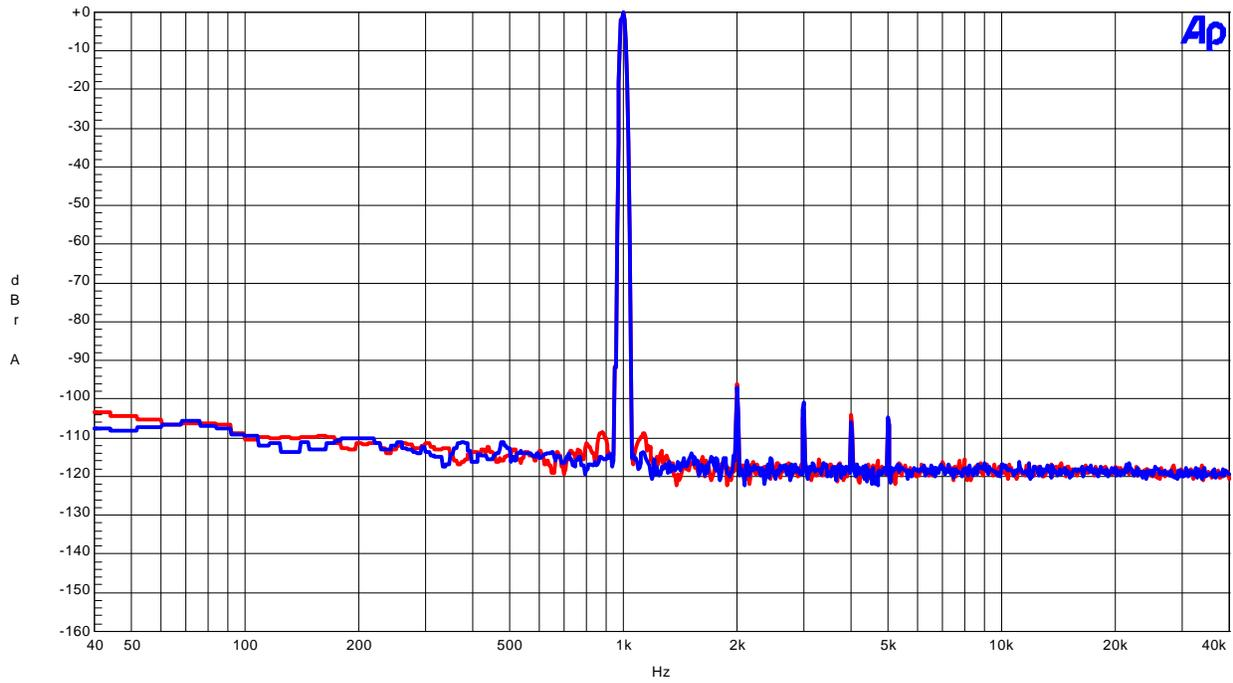

Figure15. FFT (1kHz, 0dBFS input, Notch=OFF)
- Figure15. FFT (1kHz, 0dBFS input, Notch=OFF)